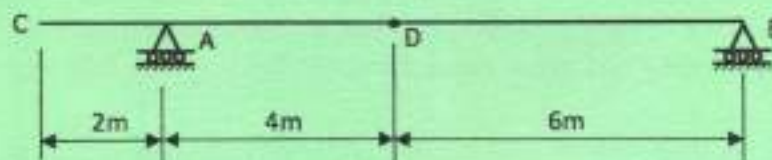

Figure 3
5. For the beam shown in figure 3: